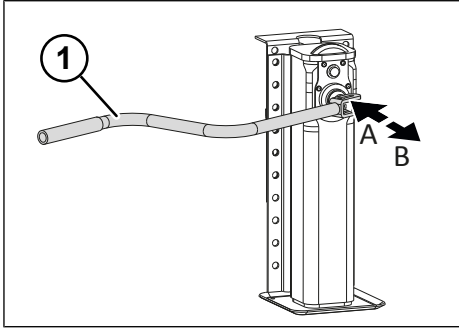

Fig. 5-5: Load speed and high speed of the rear brace
- ▶ Switch on high speed by pulling out the hand crank (see "Fig. 5-5: Load speed and high speed of the rear brace", pg. 29).
- ▶ Switch on load speed by pushing in the hand crank (see "Fig. 5-5: Load speed and high speed of the rear brace", pg. 29).
- ▶ Set to load speed by pushing in the hand crank (see "Fig. 5-5: Load speed and high speed of the rear brace", pg. 29).
- ▶ Set to high speed by pulling out the hand crank (see "Fig. 5-5: Load speed and high speed of the rear brace", pg. 29).